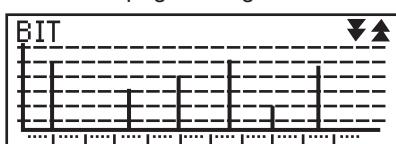

Figure 60 Histogram Measurements Screen
- VIEW: Press ► and a Histogram data screen is displayed as in Figure 60.